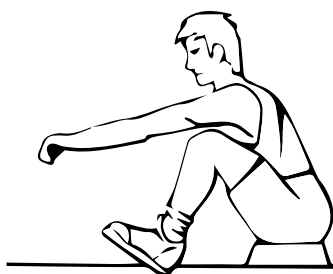

Fig. 7
- With your back straight and arms stretched out, bend your legs until you grasp the handle (Fig 7.)